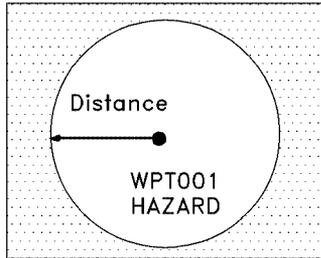

Figure 4-5 Hazard Description
4.3.6.15 Figure 4-5 shows a representation of a hazard. After entering a distance to define the radius of the hazard and enabling the hazard alert, the PLGR alerts the user of entrance into the hazard (shown in white).